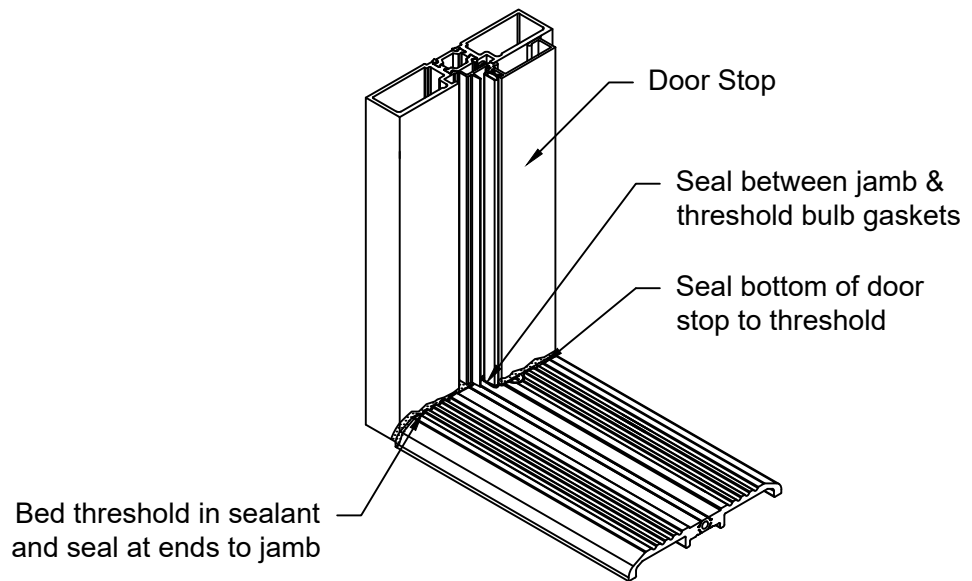

FIGURE 15
6. Seal door stop at threshold. See FIGURE 15, page 14.